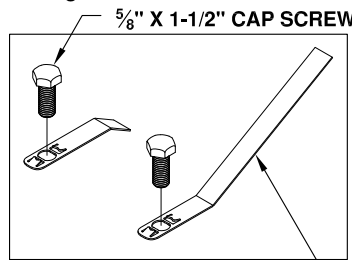

Figure C1: Bolt Guides
1. **Assemble bolt guides.** Assemble the bolt guides by threading a $\frac{5}{8}$ " bolt onto each guide as shown in Figure C1 and C2. Tighten the bolt onto the guide so that the shoulder of the bolt head is flush with the surface of the bolt guide. This is designed to be a tight fit. A wrench may be needed to thread the bolts onto the bolt guides. The notches of the bolt guide must engage the corners of the bolt head so that the bolt is prevented from "backing off" of the guide. The notches of the bolt guide may have to be pried up if they were smashed down when the bolt was tightened down.